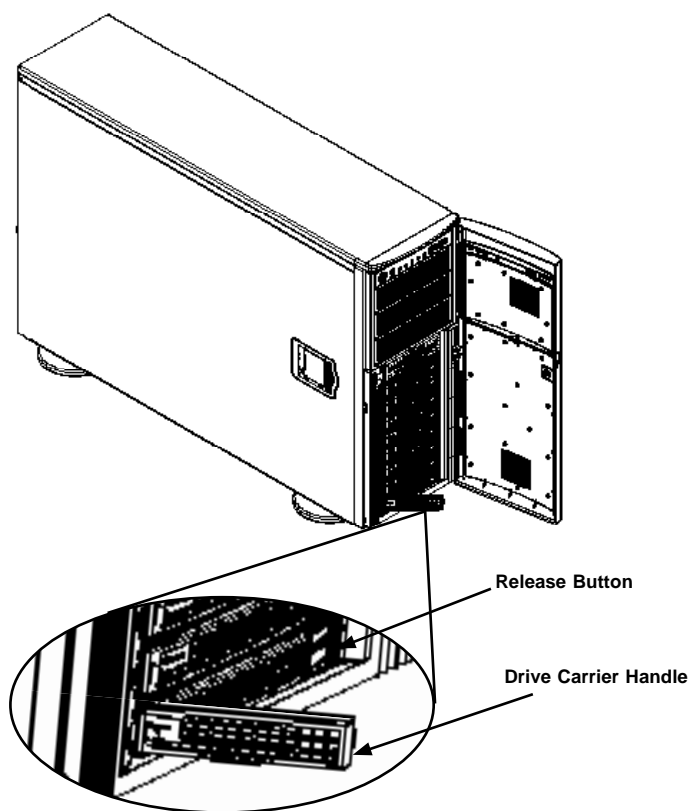

Figure 6-10. Open the Drive Carrier Release Handle
2. Using the handle, pull the drive carrier out by the handle. The drive is hot-swappable; there are no cables to disconnect (Figure 6-10).